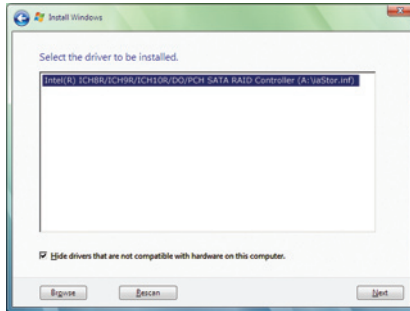

Figure 6
When a screen as shown in Figure 6 appears, select **Intel(R) ICH8R/ICH9R/ICH10R/DO/PCH SATA RAID Controller (A:\iaStor.inf)** and click **Next**.